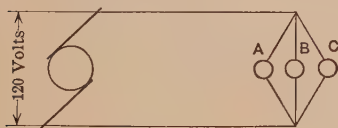

FIG. 46.
**Problem 27.** In Fig. 46 (parallel combination):